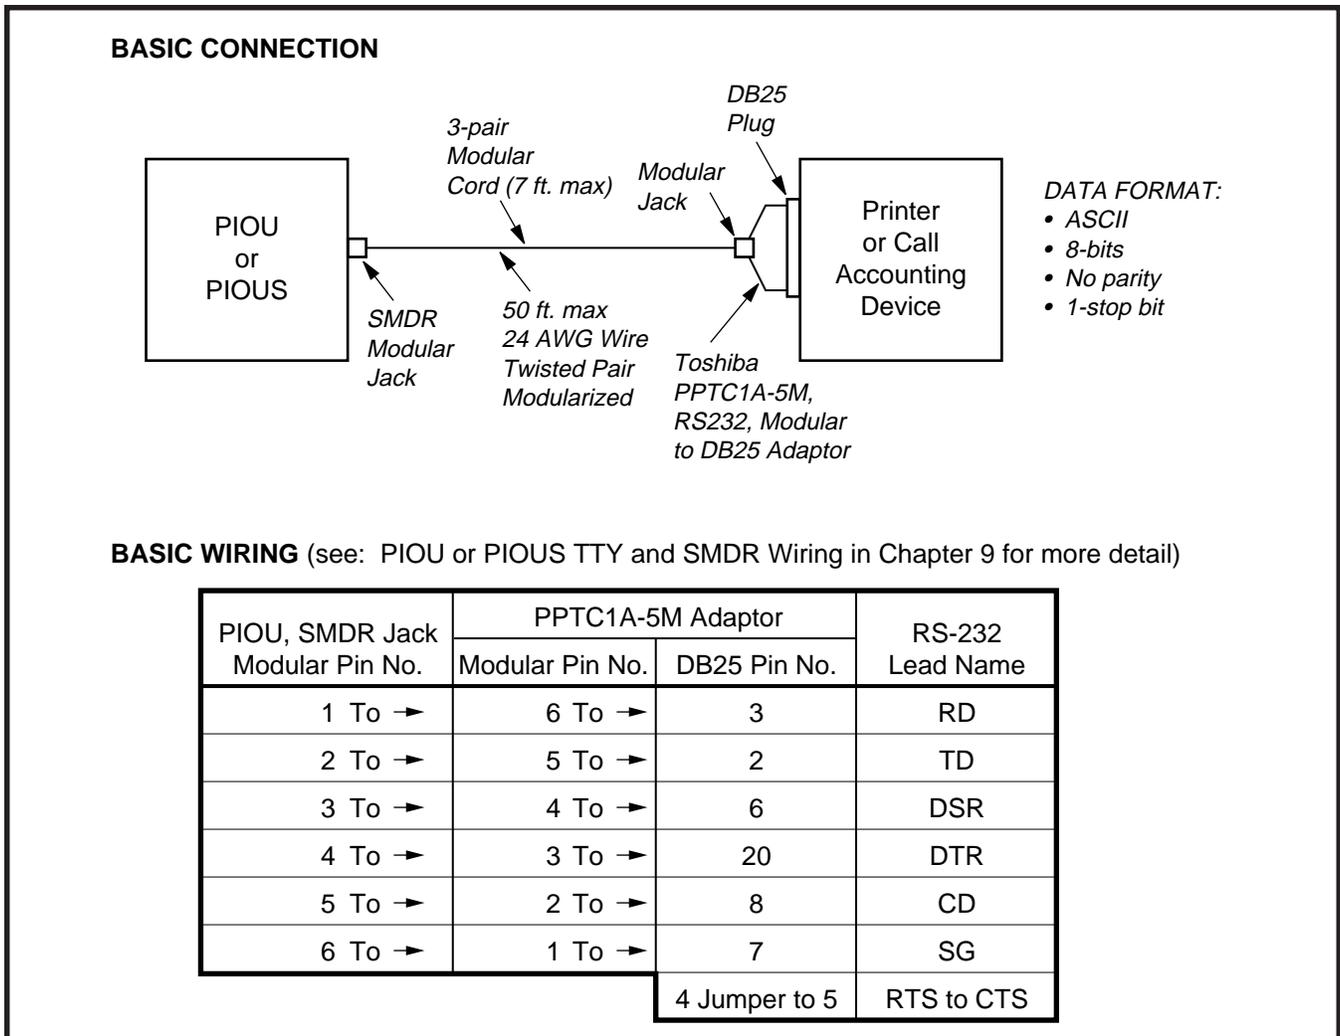

FIGURE 8-24
8.11 A DK system must be equipped with a PIOU or PIOUS PCB to support the SMDR printer/call accounting device option. Connection of the printer or call accounting device to the PIOU or PIOUS PCB is accomplished with a 3-pair modular cord (7 feet maximum) and a PPTC connector adaptor (Figure 8-24). Call record data is ASCII-formatted, 8 bits, no parity, 1-stop bit.
8.21 Install the SMDR printer/call accounting device option in accordance with the following steps: (Refer to Figure 8-24 and related drawings in Chapter 9.)